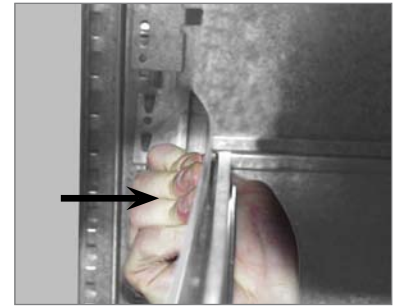

Fig. 3
- Insert the rear of the lateral guides by bending slightly (Fig. 3).